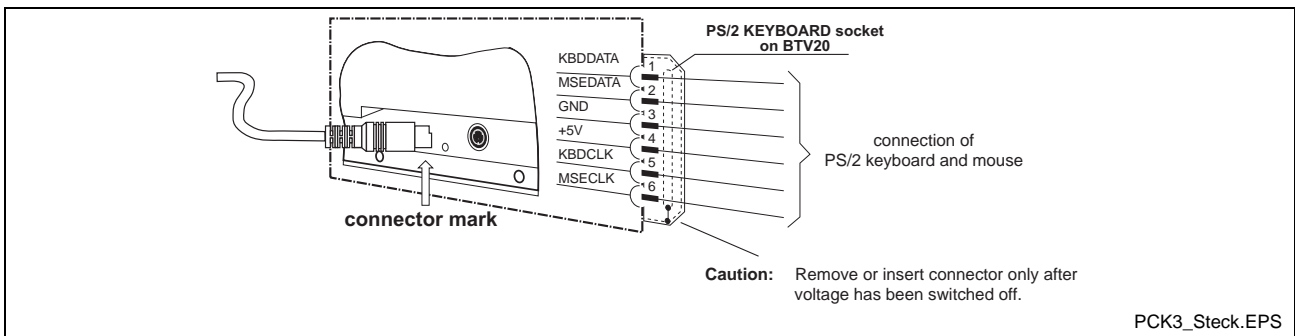

Fig. 6-3: Connection to a BTV 20 unit
- Fig. 6-3: Connection to a BTV 20 unit 6-2